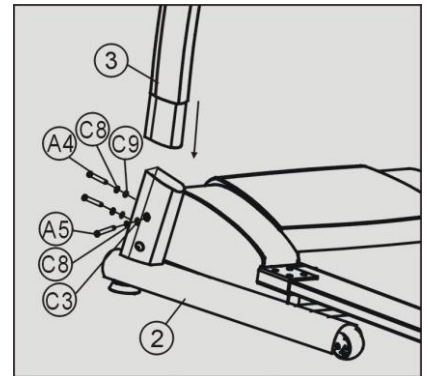

Figure 1
Insert the Left support tube (3) into the Support frame (2) with two Hex screw M8\*16 (A4), Spring washer Φ8 (C8) and Curved washerΦ8 (C9) in front, and Hex screw M8\*40 (A5), Spring washer Φ8 (C8) and Flat washer Φ8 (C3) from the side. Do not tighten them. (See fig 1)